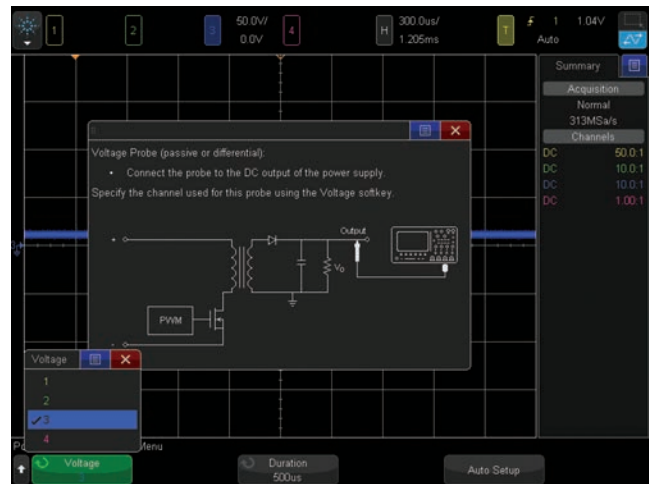

Figure 27: Output Ripple measurement connections diagram.
5. Connect a standard 10:1 passive voltage probe between the scope's channel-3 input to the DC output signal and ground as illustrated in the on-screen connections diagram shown in Figure 27. If using Agilent's SMPS training kit, connect the 10:1 passive probe from channel-3 to **TP5** (probe tip grabber) and **TP6** (ground).